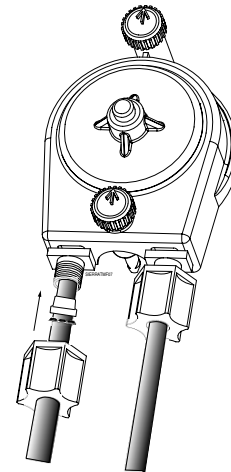

Figure 4. Installing Chemical Tubing
- e) Tighten to a secure fit. See Figure 4.
It is very important that the nut components be installed correctly, as shown in Figure 4.